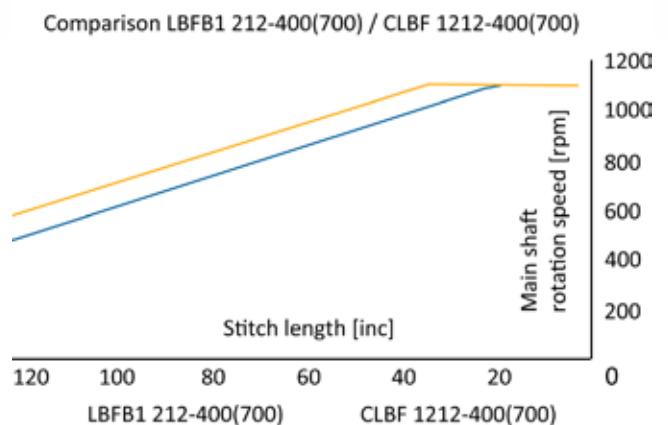

Figure 1
Figure 1 shows a comparison between a LBFB 1212-400 (700) and a Challenger CLBF 1212-400 (700). The Challenger Series runs the maximum speed of 1.100 RPM up to 3.5mm stitches, where the LBFB 1212 reduces the speed at 1.9mm stitches. Considering an average design with a reasonable number of longer stitches, the Challenger Series offers an increased performance of ca. 10%.